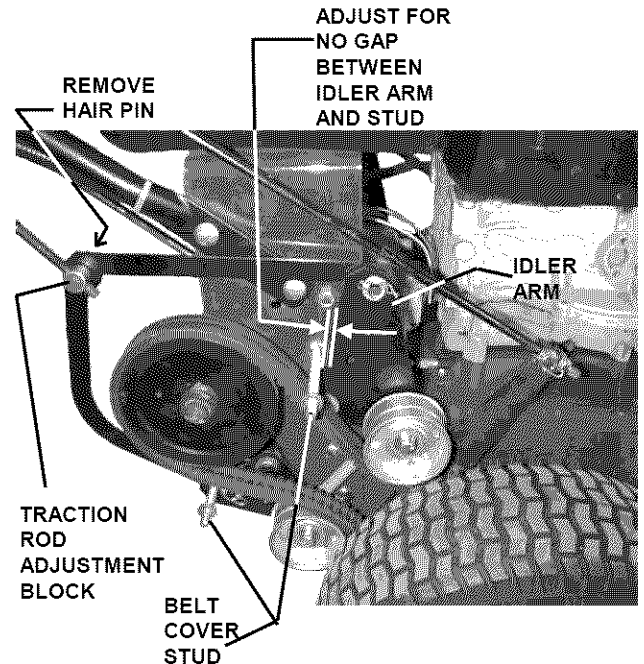

FIGURE 5.2
4. Check for clearance between the Idler Arm and the upper traction belt cover stud. Squeeze the Traction Lever firmly against the handle. When properly adjusted the Idler Arm will just touch the stud when the Traction Lever touches the handle. There should be no gap and no interference between the arm and the stud. See Figure 5.2.